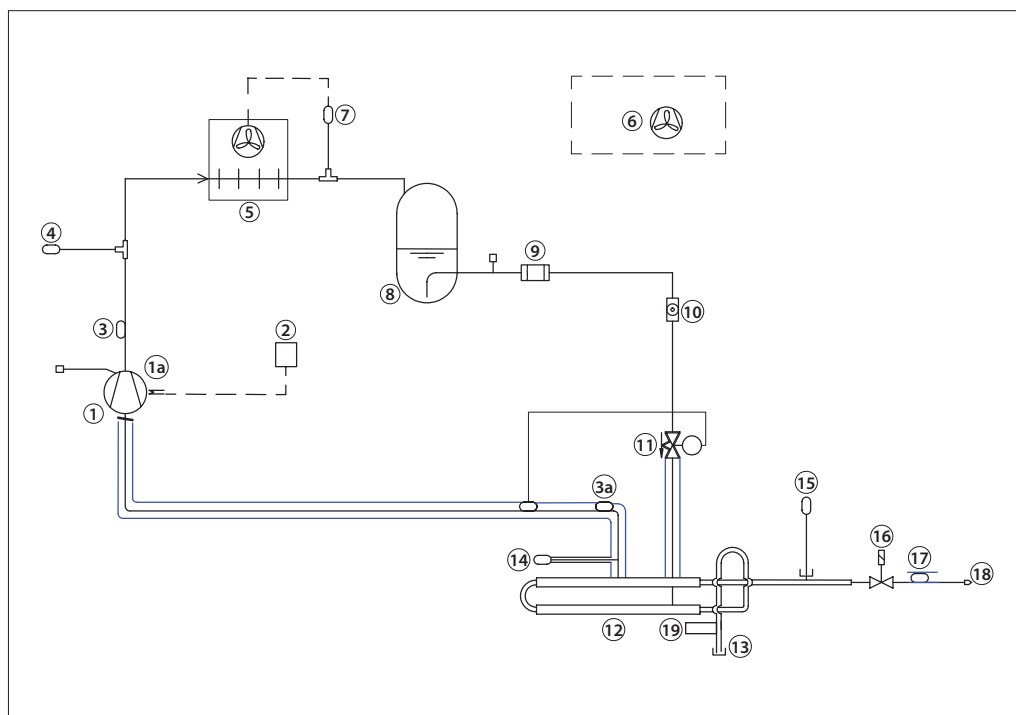

Fig. 1 - Purger R452A lay-out
** See Fig. 1 and Fig. 10a
Only 1 mechanical connection is needed for the purger (see fig. 1). The flow of ammonia/NC gases from the main plant is done through the flange for ammonia (see 13 in Fig. 1 below), while the NC gas purge is done through the blow-off pipe after the purge restrictor (18).